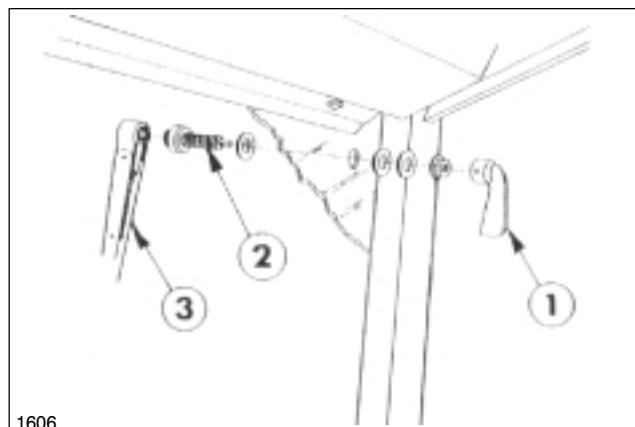

FIG. 11
32. Loosely mount the (2) Door Catches to the ROPS with the (4) 1/4" x 3/4" flange hd. bolts removed in step 31.
34. Flip the Operator Seat forward and install Seat Panel Noise Barrier by removing pressure sensitive paper from barrier and applying to bottom of seat panel centered between the (4) seat mounting bolts.
36. Slide one of the rubber gaskets onto the Wiper Arm Shift and insert through the hole in the Front Window, towards the inside of the Enclosure. Slide a rubber gasket and lockwasher provided onto the Wiper Arm Shift to Front Window with jam nut. See FIG. 11.